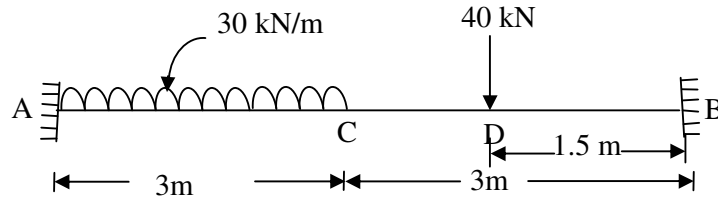

Figure 1
4. Analyse the fixed beam shown in the Figure 1.